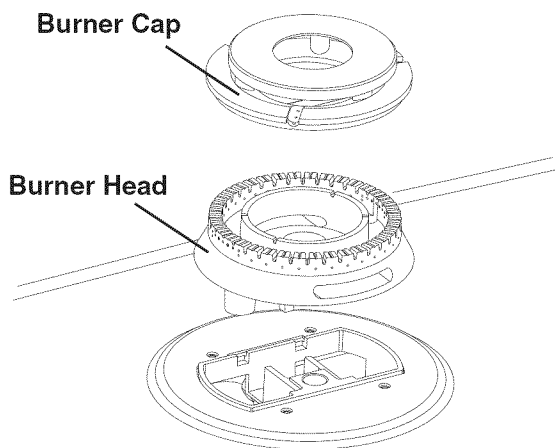

Figure 10
- C. **Triple Burner (if equipped):** Remove all tapes from burner cap. Remove the burner cap and head. Remove and discard the packaging material. Replace head and cap on the triple burner. **Be careful not to damage the electrode while placing the head over the orifice.** Make sure electrode fits correctly into slot in burner head (see Figure 10).